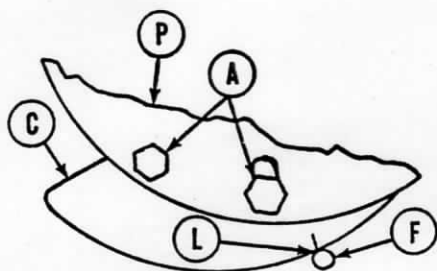
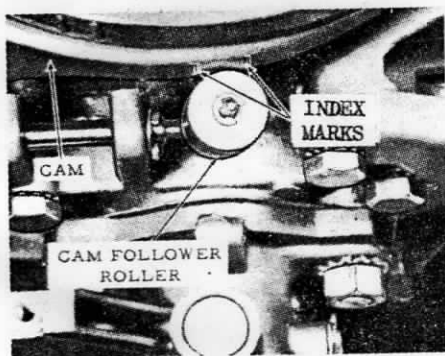

Fig. OM7-4—Schematic view of speed control mechanism. Johnson and Evinrude 1967 models have two marks as shown in Fig. OM6-5.
Fig. OM7-5—View of the cam follower centered between index marks on speed control cam. Cam attaching screws are on under side.
Before adjusting the speed control linkage, make certain that roller (9—Fig. OM7-1) contacts the cam at idle speed and choke linkage is not holding throttle partially open. Check the condition of spring (7) and link (35). On 1966 and earlier motors, turn speed control grip until the one index mark (L—Fig. OM7-4) is aligned with center of cam follower (F). On 1967 models, turn the speed control grip until the cam follower roller is centered between the two index marks as shown in Fig. OM7-5. On all models, loosen the two cam attaching screws and while holding throttle closed, move cam in slotted attaching hole until all slack is removed from linkage. Tighten the attaching screws, then check to be sure that throttle valve starts to open as cam follower passes the scribe line when speed control is advanced.